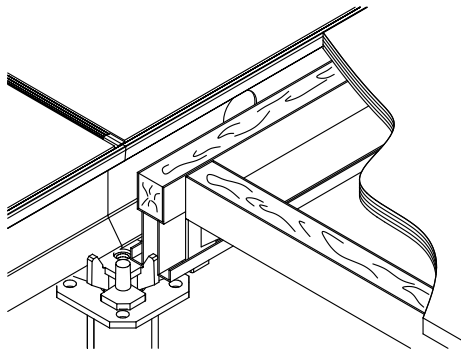

Fig. 14.27
10. When boarding the ceiling the formwork within the posts and other elements inserted in the ceiling should be made of the compensating girders 0.90 or 1.80 m and the transverse girders (A0081090) (fig. 14.27 and 14.28). By using these elements you can make a grate which can be covered with the plywood 21 mm thick and appropriately cut.